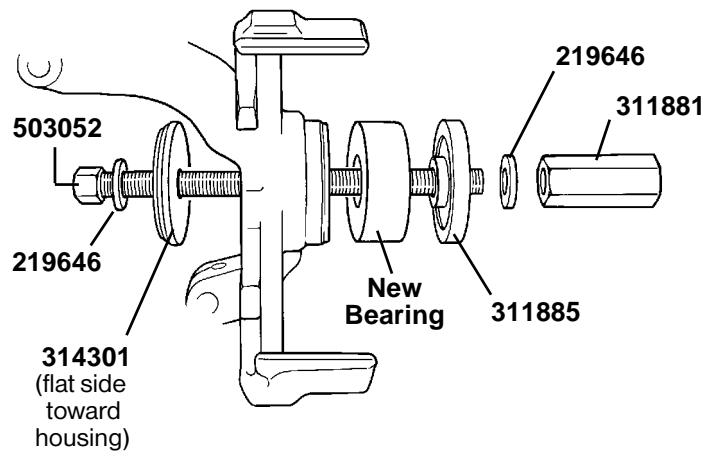

Figure 3
4. Lightly lubricate the new bearing, and position it for installation with the tool components assembled as shown in Figure 3. **Important: Assemble the adapter with the flat side toward the housing, and the small diameter pilot on the side away from the housing.**